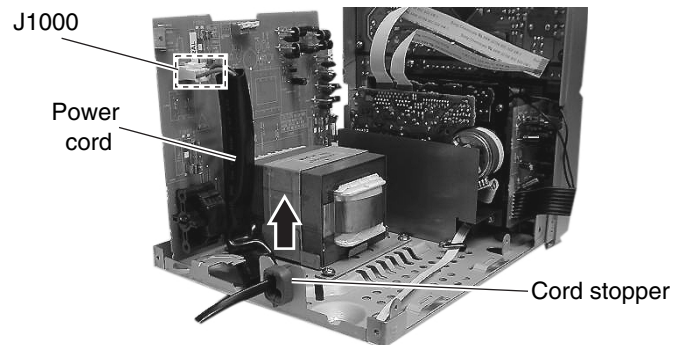

Fig. 18
**Removing the power cable (See Fig. 18)**